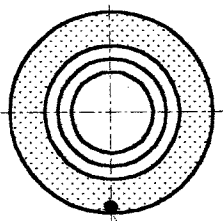
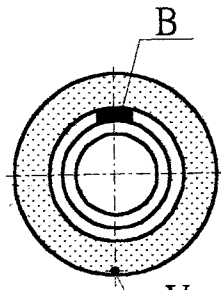

Fig. 4
Fig. 5
2. Let the wheel swings to find out the center of gravity and then mark with a [√], (Fig 4) Lock the balancing block [B] on the opposite side of center of gravity and do not move any more. (Fig 5).